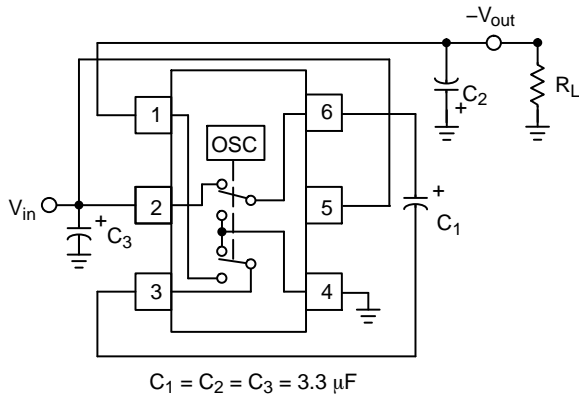

Figure 14. Test Setup/Voltage Inverter
**ELECTRICAL CHARACTERISTICS** ( $V_{in} = 5.0\text{ V}$ ,  $C_1 = 3.3\text{ }\mu\text{F}$ ,  $C_2 = 3.3\text{ }\mu\text{F}$ ,  $T_A = -40^\circ\text{C}$  to  $85^\circ\text{C}$ , typical values shown are for  $T_A = 25^\circ\text{C}$  unless otherwise noted. See Figure 14 for Test Setup.)
The most common application for a charge pump is the voltage inverter (Figure 14). This application uses two or three external capacitors. The  $C_1$  (pump capacitor) and  $C_2$  (output capacitor) are required. The input bypass capacitor  $C_3$ , may be necessary depending on the application. The output is equal to  $-V_{in}$  plus any voltage drops due to loading. Refer to Tables 1 and 2 for capacitor selection. The test setup used for the majority of the characterization is shown in Figure 14.